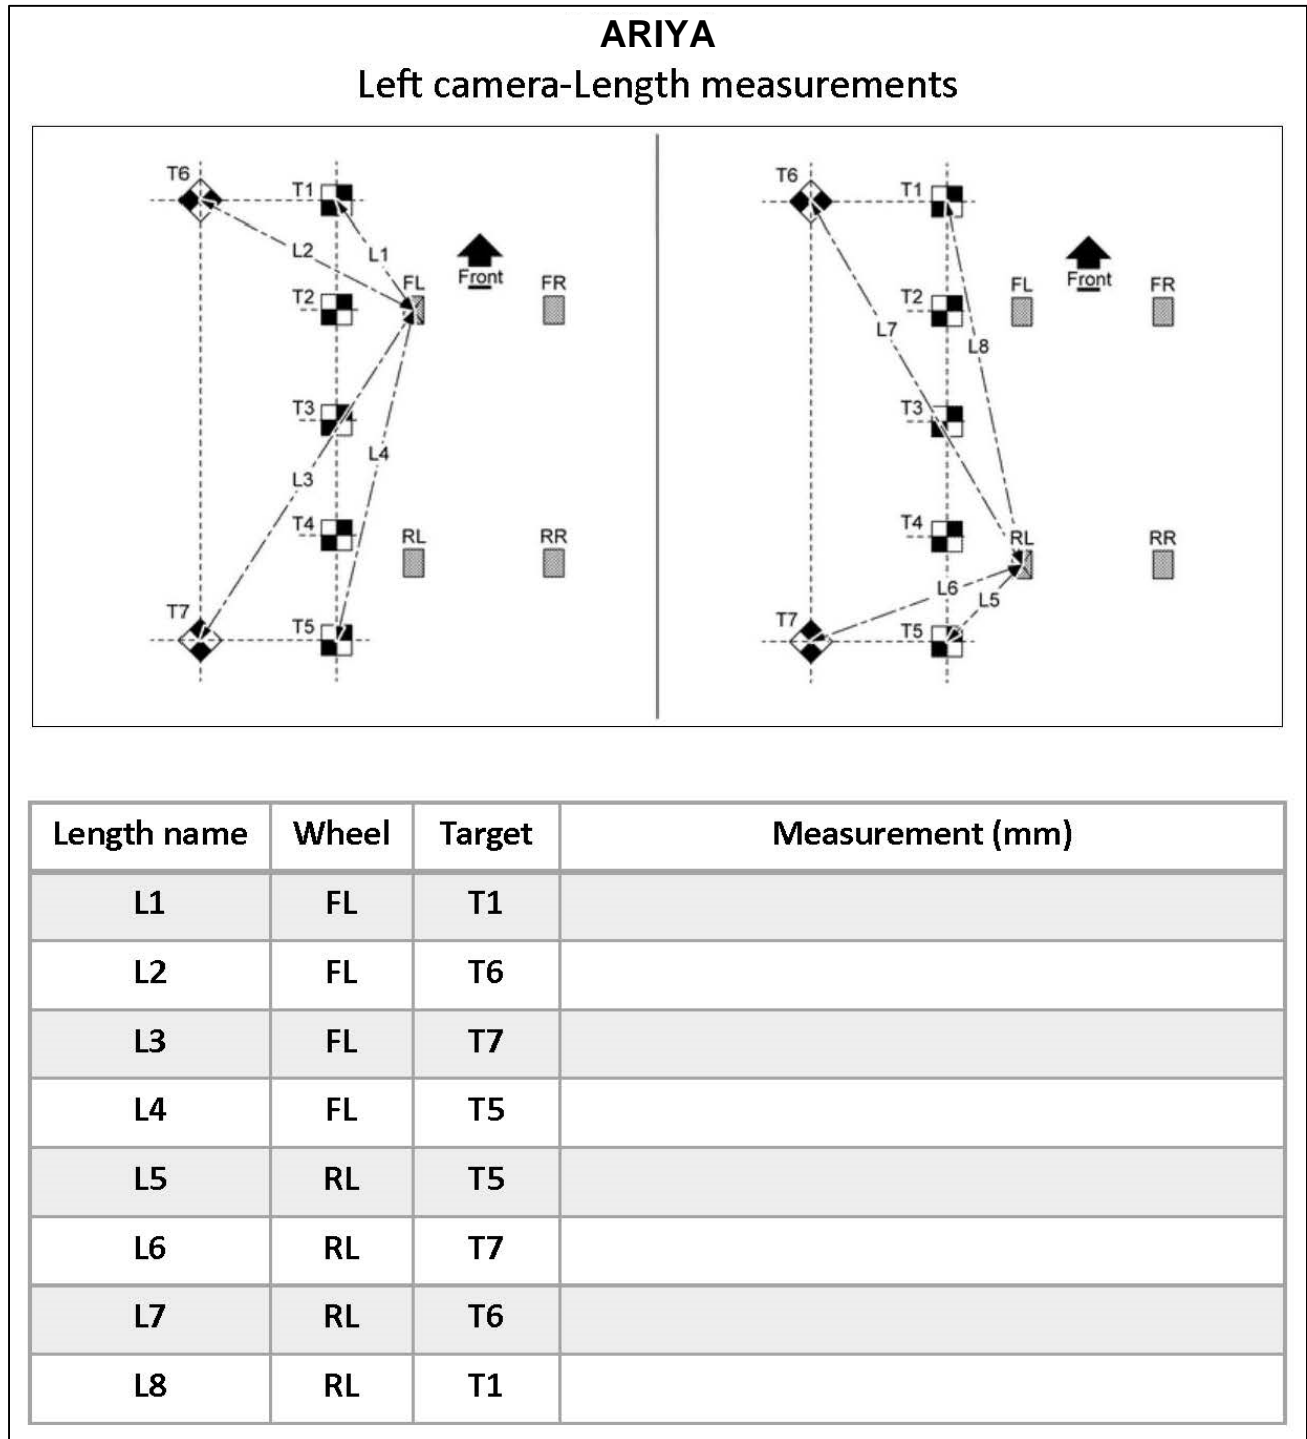

Figure 54
36. Measure the distance between the wheel center point and the center of the calibration targets T1, T6, T7, and T5, as shown in Figure 54 below.
IMPORTANT: All measurements must be in millimeters (mm). Refer to the illustrations in Figure 54 to ensure the correct measurement is documented in the correct order and for each calibration target.